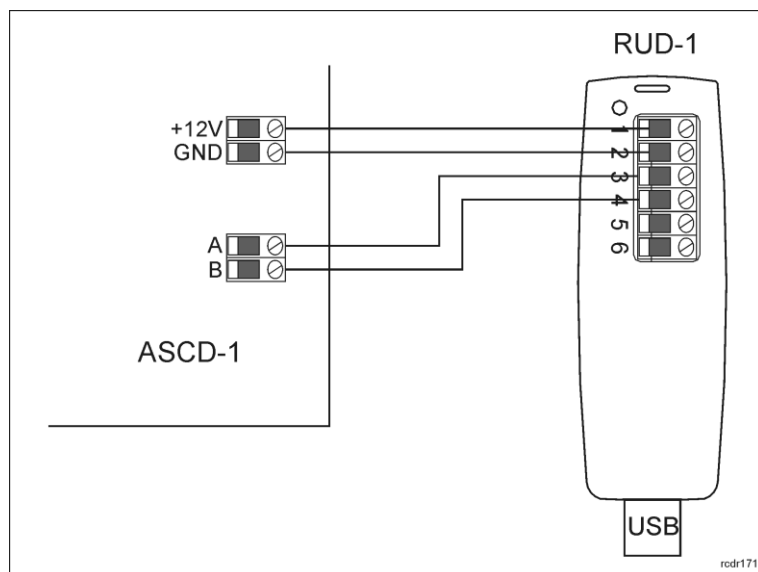

Fig. 4 Connection of ASCD-1 to RUD-1 interface
- Connect the device to RUD-1 interface according to fig 4 and the RUD-1 interface to computer's USB port.